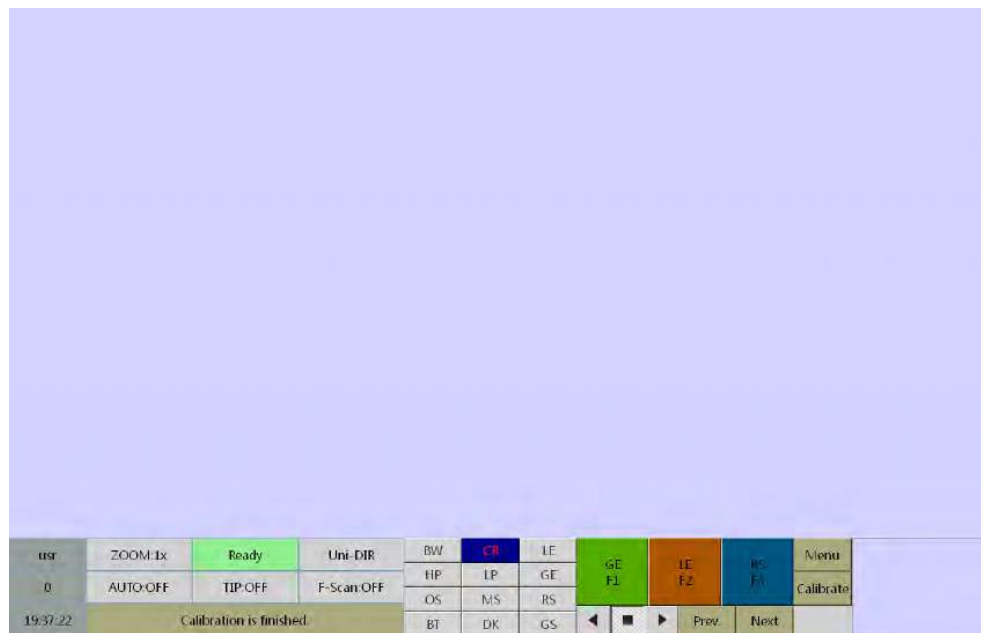

Fig 4.4 Main Interface of X-Ray Inspection System
8. **Custom functional buttons** :  The different processing functions-"F1", "F2," "F3" can be set separately as required, as shown in the main interface of the X-ray inspection system in Chapter 4 (Fig 4.4). The default configuration of the functional shortcuts: F1 stands for "Super Enhancement"; "F2" stands for "Local Enhancement"; "F3" stands for "Invert".